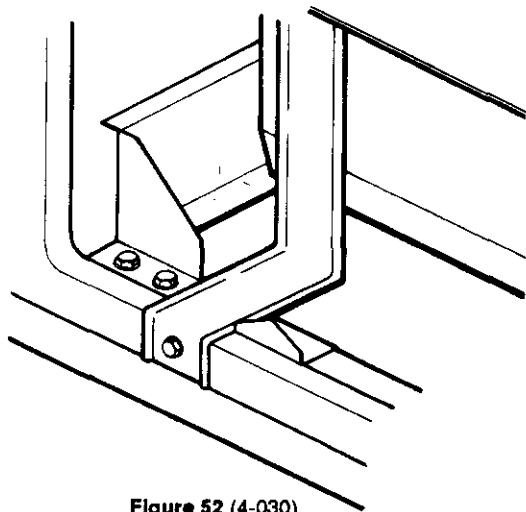

Figure 52 (4-030)
21. Install front burner side shield. Use screws saved earlier. Properly place side shield support leg. See Figure 52.